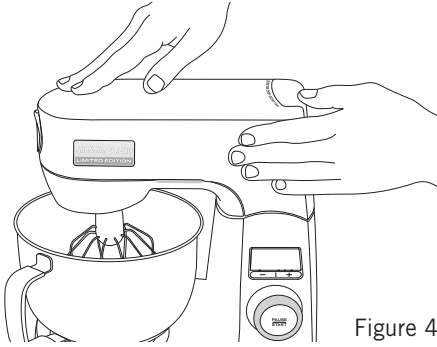

Figure 4
5. Lower the mixer head with the selected mixing attachment in place into the mixing bowl. Press the 'head release' button to un-lock it from its position and ease the mixer head down (Fig. 4).